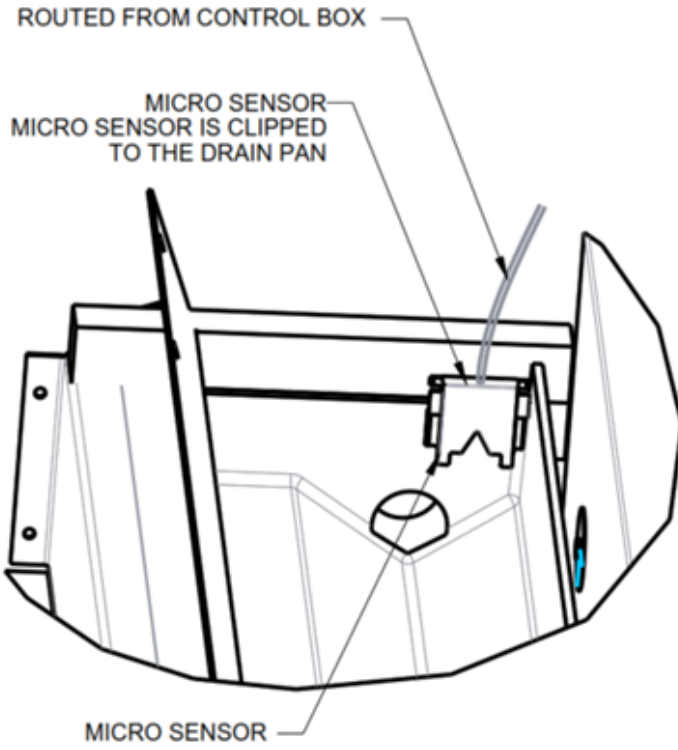

FIGURE 30
8. Fix the Micro Sensor directly on the drain pan using the clips on the sensor. Adjust the depth of the sensor as needed. Refer to figure 30.